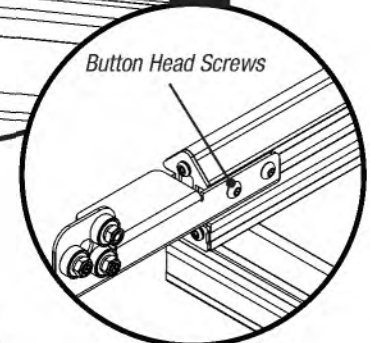

FIGURE W-1
- A. Loosen the Button Head Screws connecting the Tensioners to the V-Rails. **Do not remove.** **FIGURE W-1.**